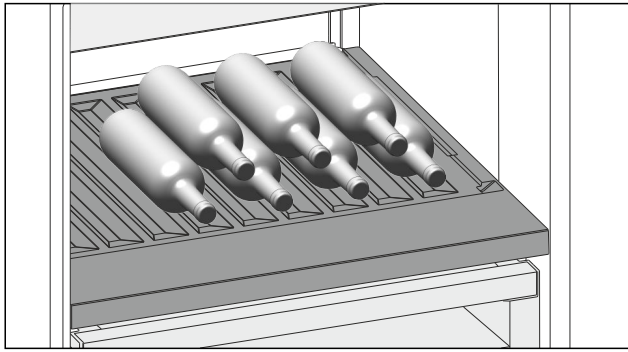

Fig. 157
- Place bottles in the back row with their bases against the back wall. (see Fig. 157)